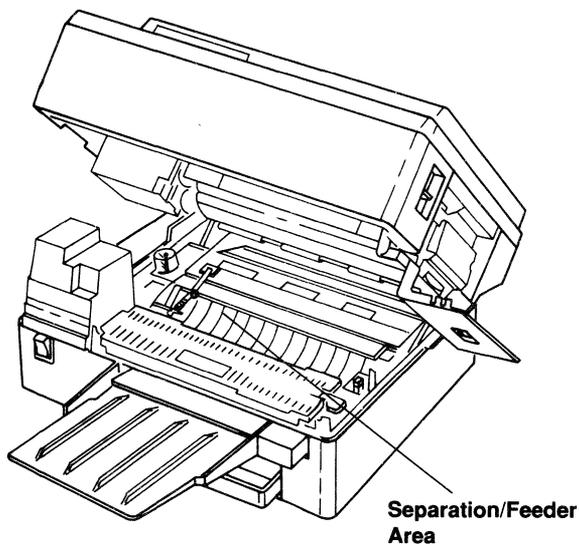

Figure 3: Separation/Feeder Area
2. Remove any jammed paper from the separation/feeder area (Figure 3).